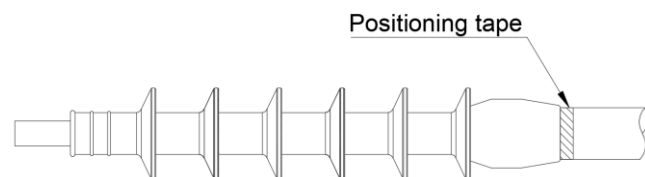

Fig.4
- Complete the shrinkage of the product, as shown in Fig.4.